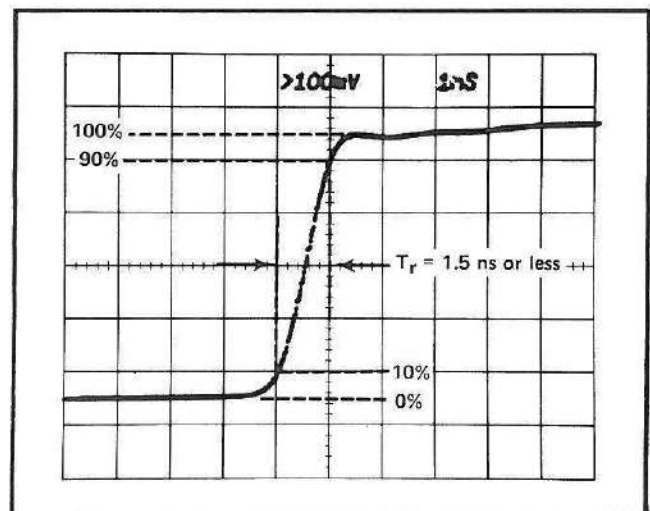

Fig. 5-10. Incident pulse risetime of the S-6, S-54 and 7S12 system.
b. ADJUST the mV/DIV VARIABLE control so that the 0% and the 100% levels are 5 div apart. The 0% level is the well defined base of the pulse. The 100% level must be established in the manner described in step 4c of the S-6, S-52 and 7S12 System check, since the top of the pulse is not well defined. The risetime to be used in the procedure is 1.5 ns. See Fig. 5-10 for the waveform.